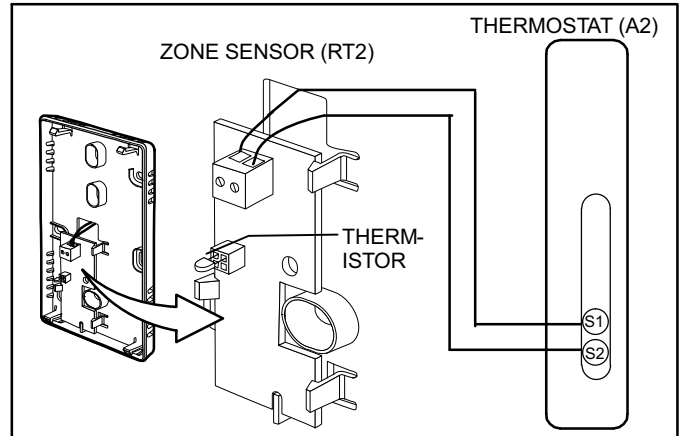

Figure 5. Zone sensor wiring
4. Verify zone sensor wiring per figure 5. Check that thermistor is in place.
Attach the wires from the device sensor terminals to the appropriate zone sensor terminals on the thermostat (see figure 5).